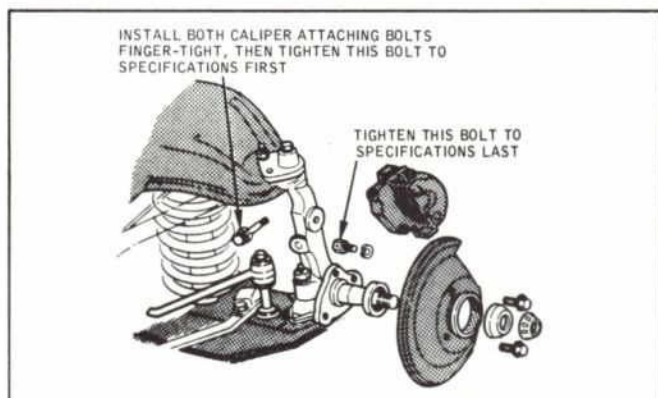

Figure 26—Caliper Attaching Bolt Tightening Procedure
*The upper bolt must be tightened first as shown in Figure 26.* Install the safety wire and twist the ends at least five turns. Push the ends against spindle to avoid interference with brake hose and steering stop. Install a new copper washer on each side of the brake hose fitting and attach to caliper.